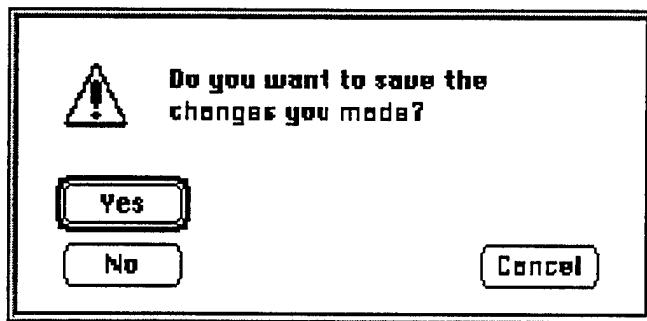

Figure 2.10: Program asks user if he wants to save changes
8. Now quit the program by choosing **Quit** from the **File** menu. Since you have made changes to the document, but have not saved the changes, the application knows to interactively ask whether or not to save the changes just made, as shown in Figure 2.10. Choose **Cancel** from the dialog box. This would save the changes to your original file. Instead, select **Save As** from the **File** menu.